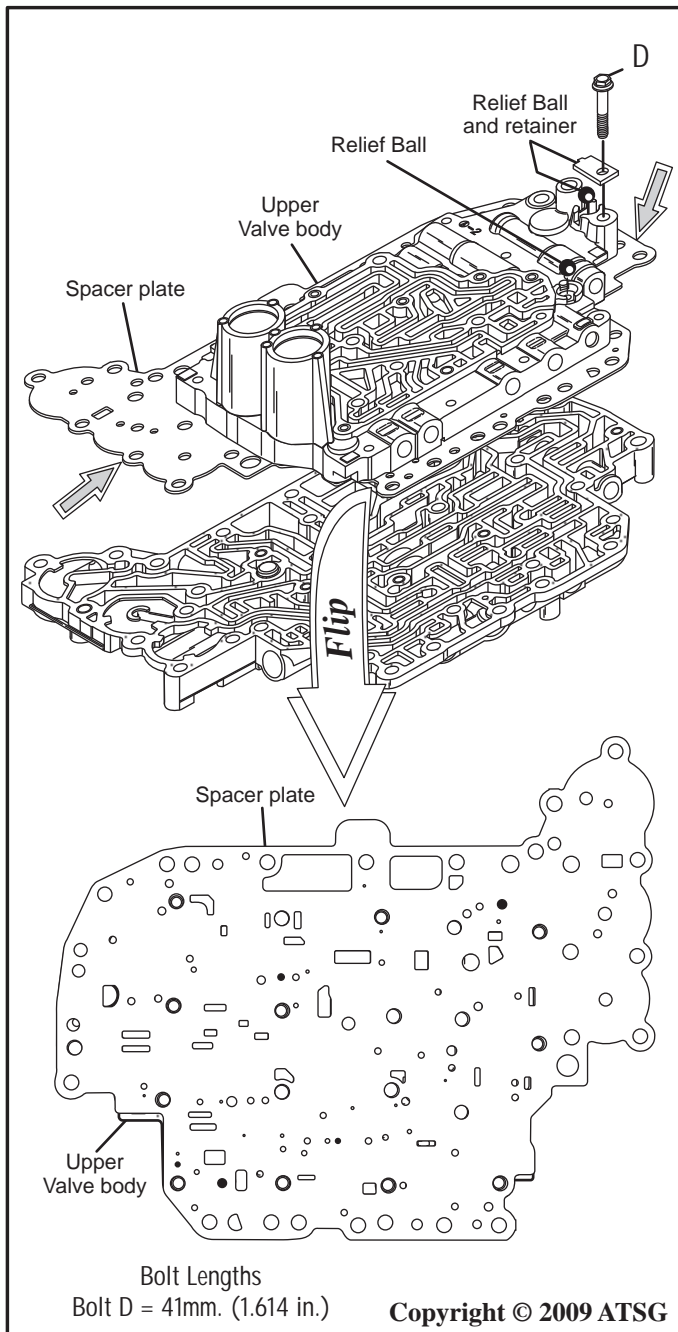

Figure 127
13. Remove the 10 mm bolt identified with the letter "D" and remove the retainer and 10 mm relief ball as shown in Figure 127.
15. Place fingers on the spacer plate, where the two grey arrows are indicated, and thumbs on the upper valve body, retaining them together, and flip the plate and valve body bottom side up as shown in Figure 127.